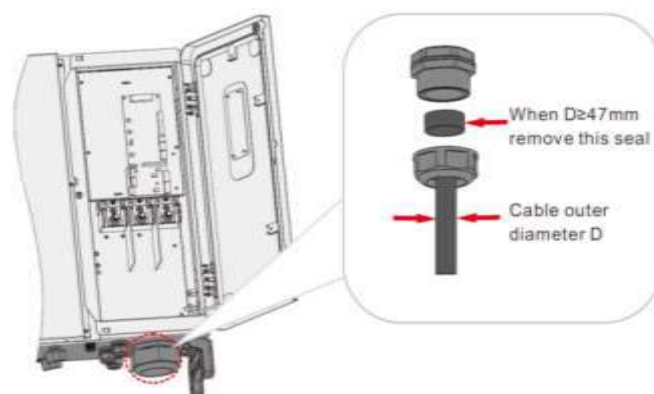

Fig. 4-30 AC waterproof connector
- 3) Loosen the swivel nut of the AC waterproof connector and select a seal according to the cable outer diameter (Fig. 4-30). Lead the cable through the swivel nut, seal, and wiring terminal successively.